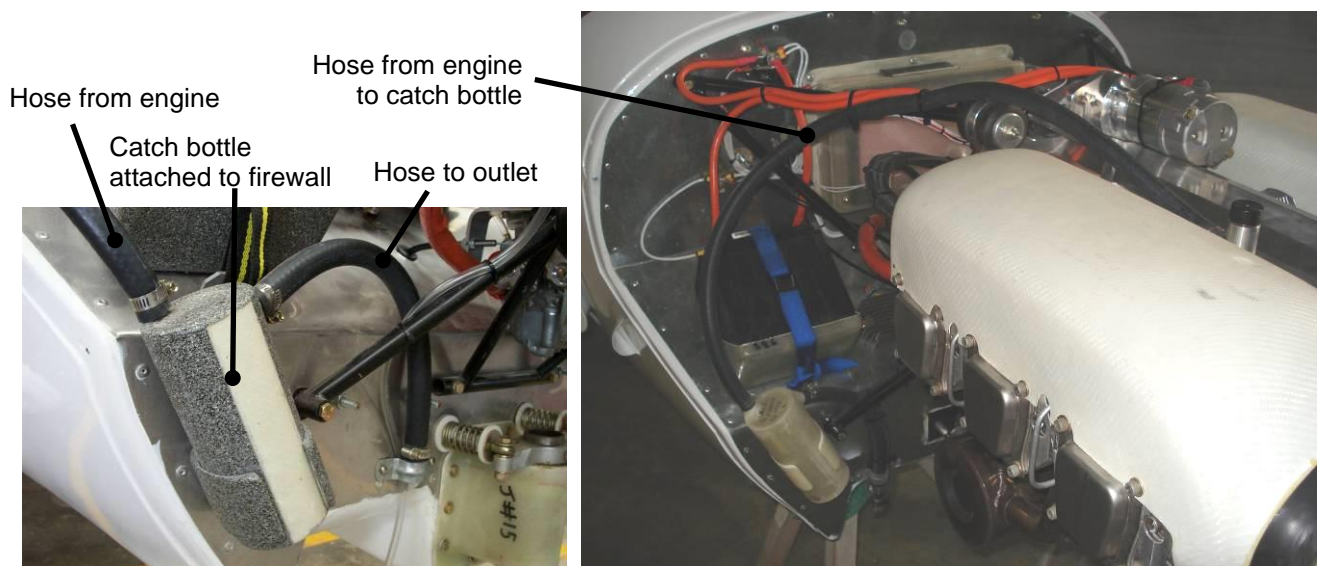

Figure 7. Crankcase Breather Installation
- The Jabiru 2200 and 3300 Gen4 engines have a crankcase breather connection built into the dipstick housing. This is to be connected as shown in Figure 7 below.